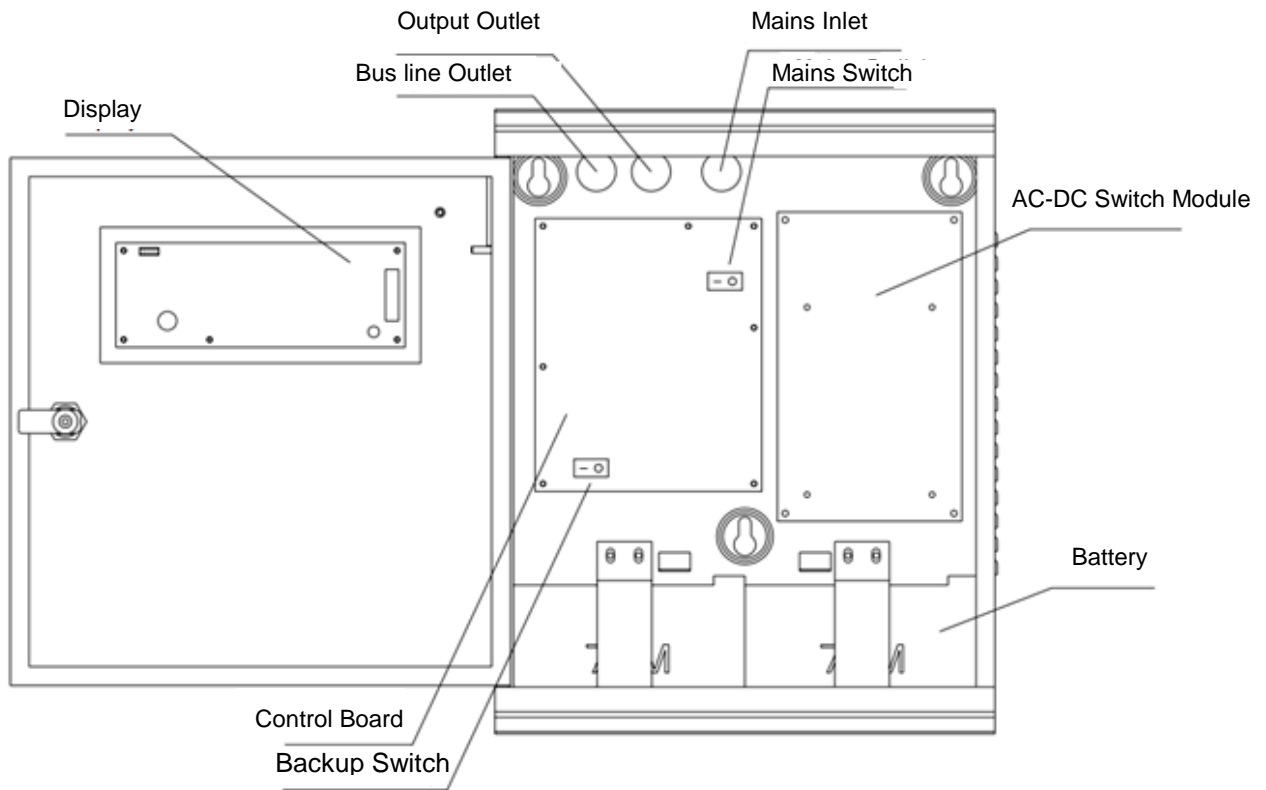

Fig 3 Internal Structure
5.4 Internal Structure is shown in Fig 3